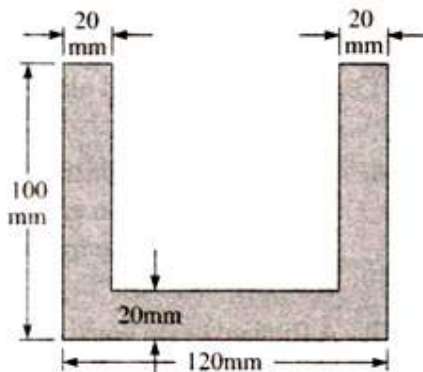

Figure 3
4. A horizontal beam of the section shown in Figure 3, is 3 and 4 meters long and is simply supported at the ends. Find the maximum uniformly distributed load it can carry if the compressive and tensile stresses must not exceed 60 N/mm^2 and 30 Nmm^2 respectively. Draw a diagram showing variation of stress over the mid span section of the beam.